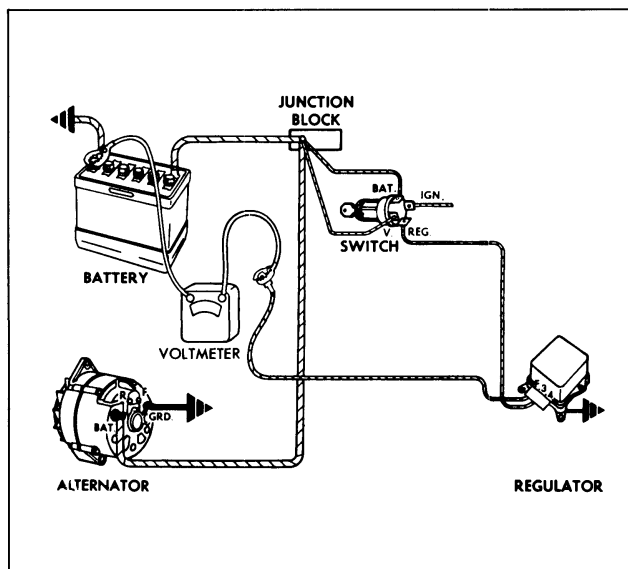

Fig. 11-29 Checking Circuit with Voltmeter
6. Disconnect field lead at alternator and connect voltmeter between this lead and ground terminal of battery (Fig. 11-29). With ignition off, voltage should be zero. If not, faulty ignition switch or wiring connection at switch is indicated. With ignition on, reading should equal battery voltage. If not, faulty ignition switch and/or open at connections are indicated. If field circuit checks out properly, proceed to step 7.